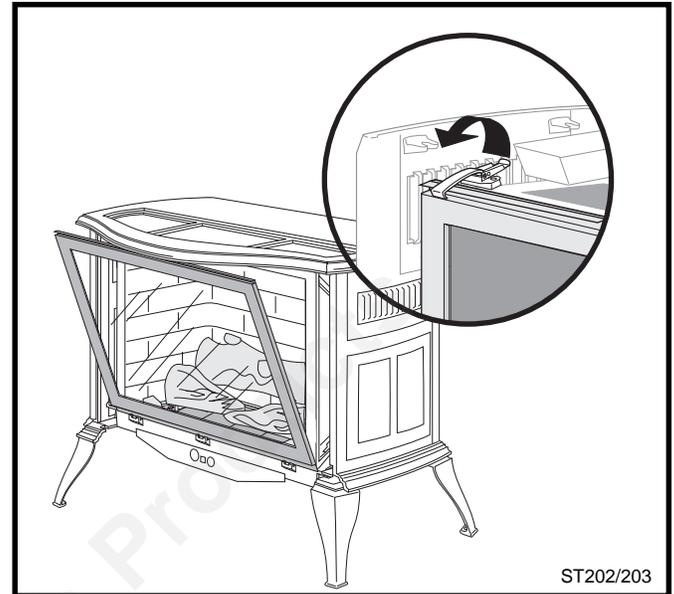

Fig. 34 Remove the screen or glass panel.
3. Remove the screen or glass panel by releasing the two upper retainer latches (A). Lift the panel up and off of the firebox frame. (Fig. 34)